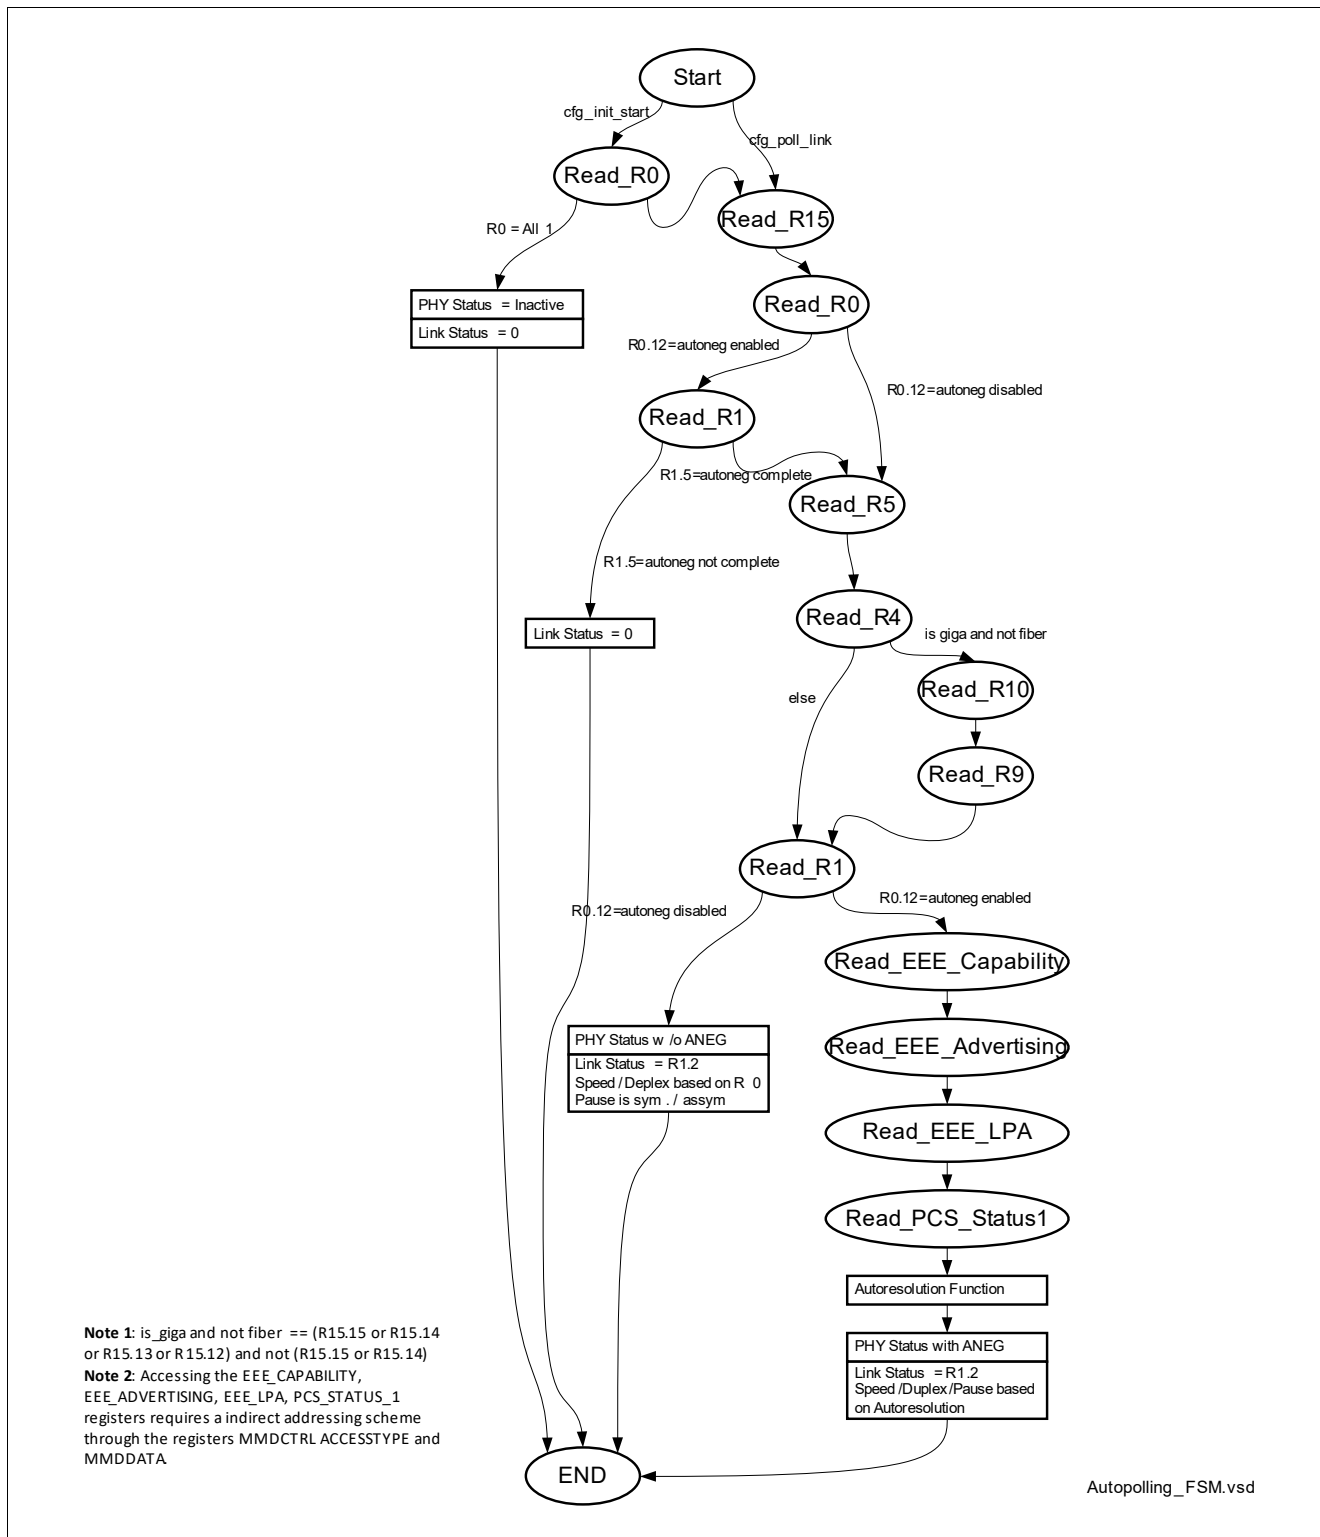

Figure 8 Auto Polling FSM - Main Loop
The Management Data Input/Output (MDIO) master module provides the register interface to access external or internal PHY registers. The access is triggered by an internal bus master access or by an automatic PHY status polling function (refer to Figure 8).
**Figure 8** describes the main loop of the auto-polling state machine. The state machine reads the PHYs registers in the following sequence: